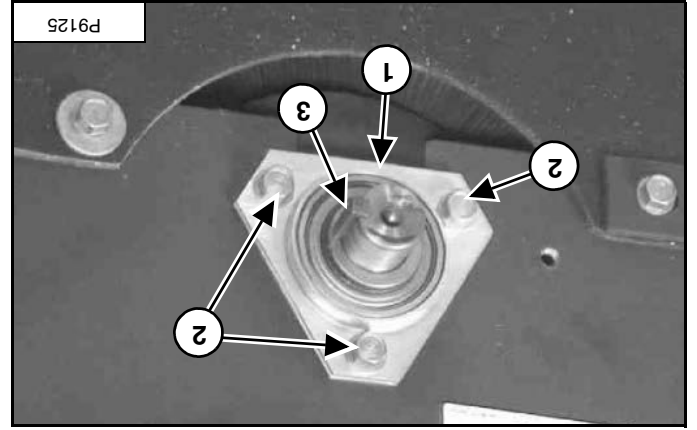

Figure 131
Install the bearing (item 1). Install and tighten the bolts and nuts (item 2). Install the square key (item 3) [Figure 131].